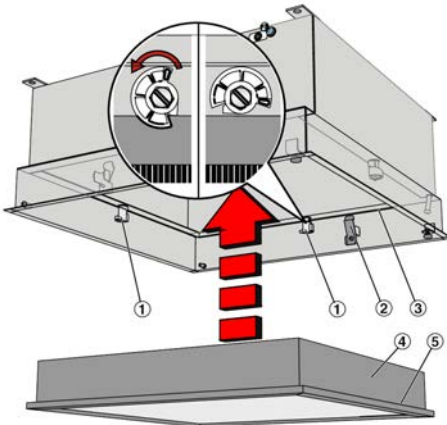

Fig. 4: Inserting filters
2. ▶ Open the turn clips (Fig. 4/1) by turning them anti-clockwise.
Insert the filter (Fig. 4/4) with the seal (Fig. 4/5) upwards into the filter casing until it clicks into place at the springs (Fig. 4/2).
⇒ This presses the filter seal (Fig. 4/5) on to the seal blade (Fig. 4/3).